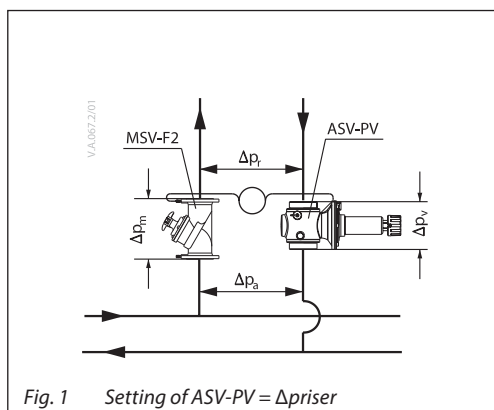

Fig. 1 Setting of ASV-PV = Δp_{riser}
- partner valve outside the control loop (Fig. 1). Recommended configuration: it results in best performance since whole controlled pressure range is available to the riser. Flow limitation is done on each terminal unit in the riser.